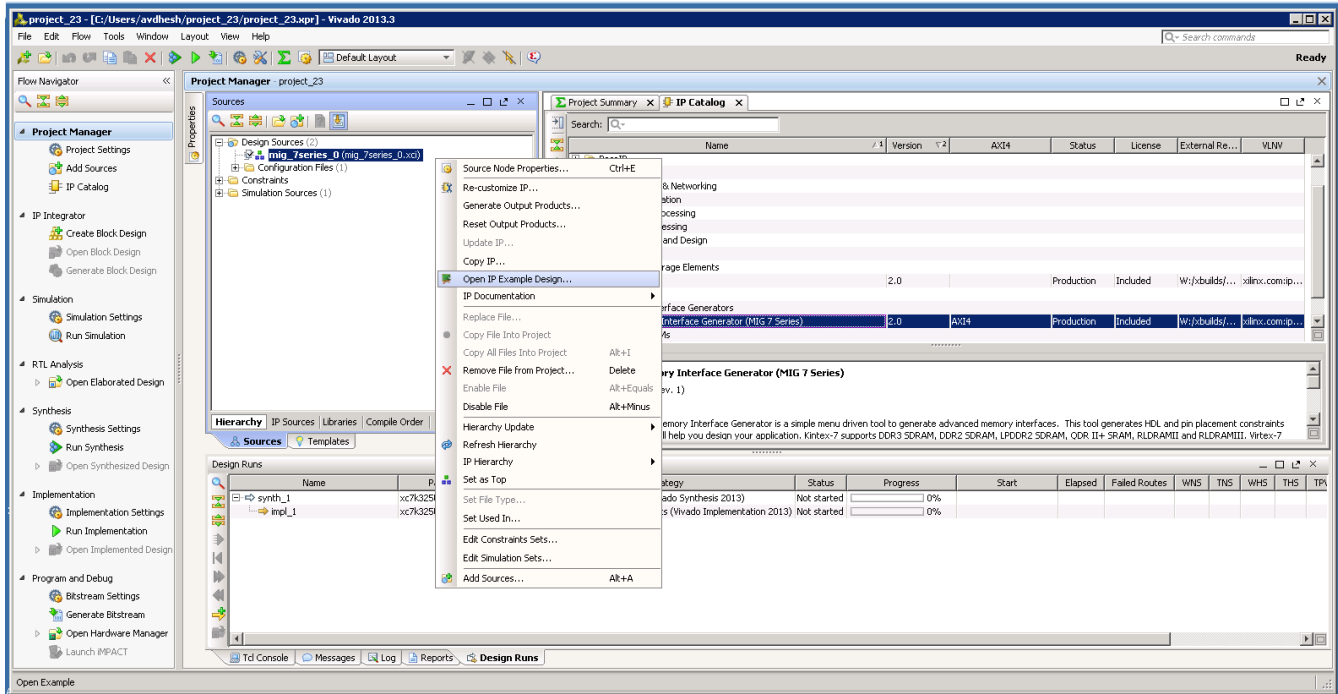

Figure 1-36: Open IP Example Design
- The Vivado Design Suite supports **Open IP Example Design** flow. To create the example design using this flow right-click the IP in the **Source Window**, as shown in Figure 1-36 and select.